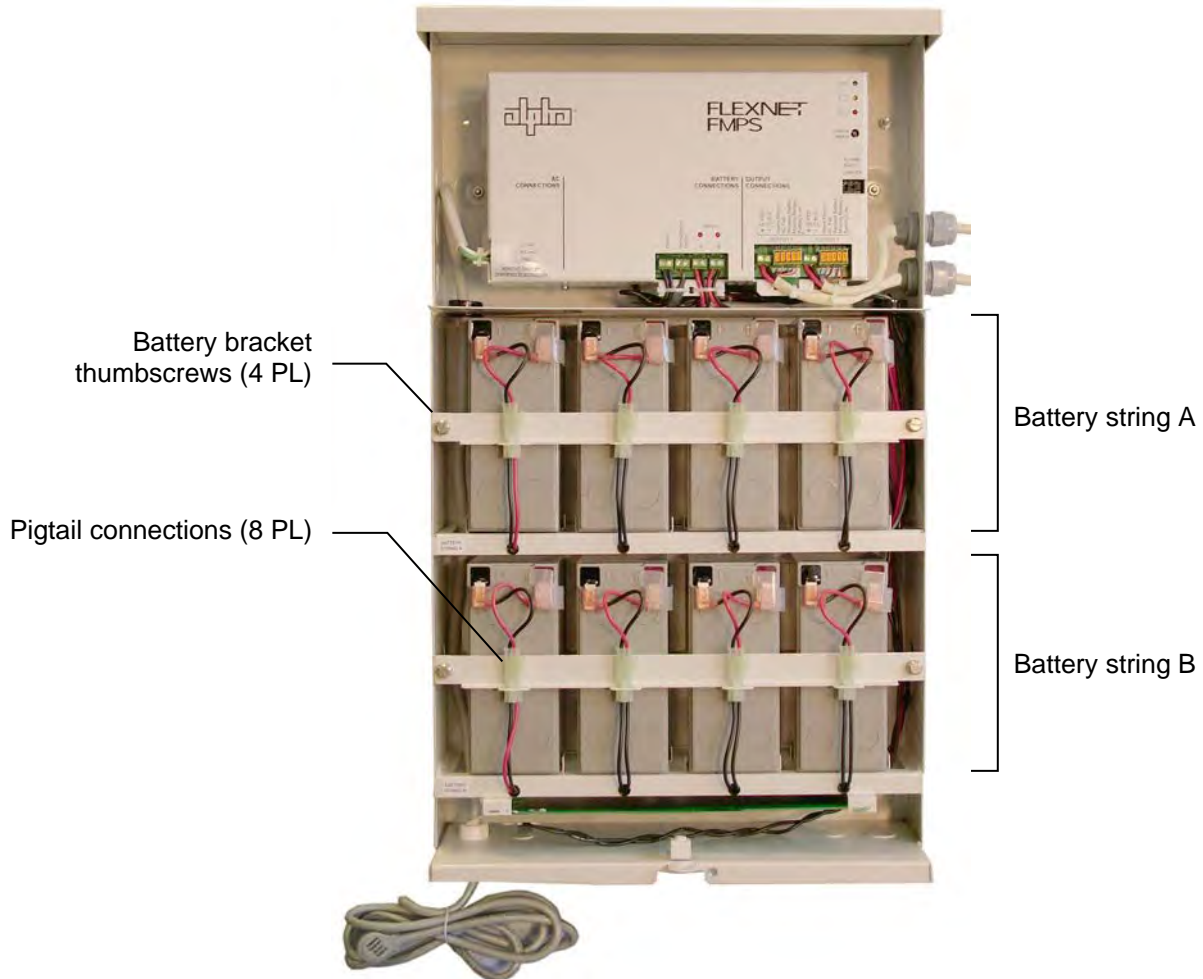

Figure 11–Installing the batteries
6. Secure the battery bracket thumbscrews. See Figure 11.